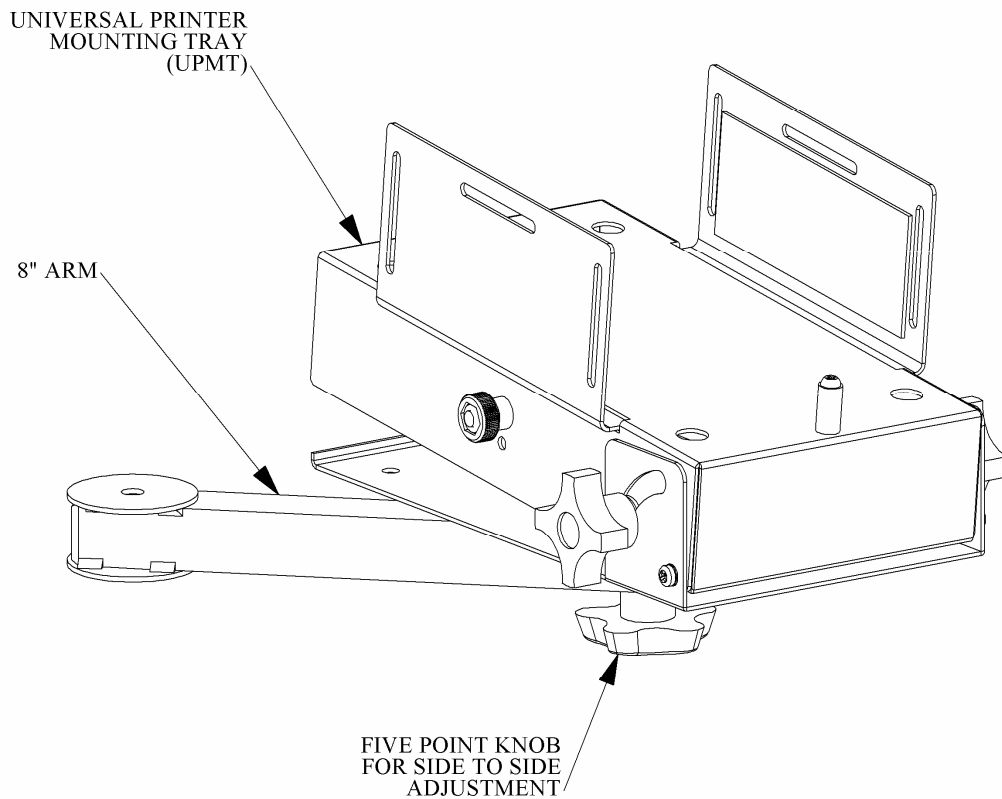

Figure 4 - An 8" arm and a Universal Printer Mounting Tray
3. Install the *UPMT* on the end of the arm (See Figure 4).
The width of the *UPMT* will expand to support printers from 5” to 9 ½” wide. To extend or retract the sides of the *UPMT*, turn one of the small round knobs on either of the sides on the middle of the *UPMT* until the desired width is adjusted (See Figure 4).